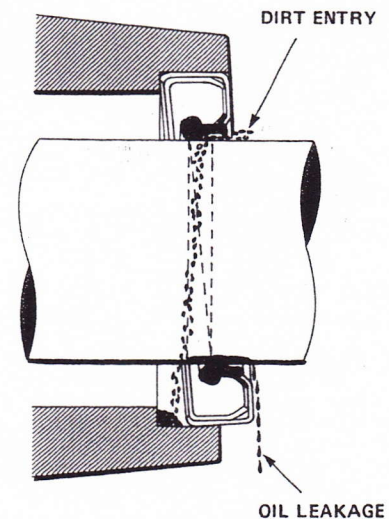

FIGURE 4-16. Results of an Improperly Installed Seal.
6. Care must be taken not to install the seal in a cocked position. Incorrect seal installation will cause loss of gear lubricant and affect the brake mechanism (Figure 4-16).